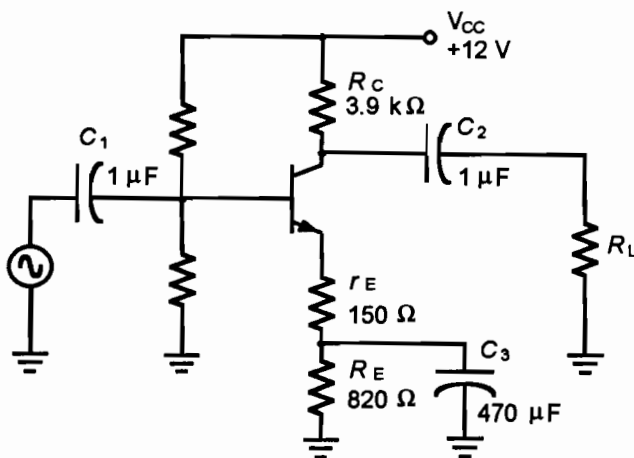

Figure 17.3
- Turn off the circuit power. Modify your circuit to the swamped amplifier of Figure 17.3. Apply the circuit power. Set the function generator to apply a  $20\text{ mV}_{p-p}$ ,  $1\text{ kHz}$  input signal, using your oscilloscope. Measure and record the amplifier input and output signal values. Then calculate the amplifier loaded voltage gain.
- A. In Procedure step 5, the average value of the output signal was not zero. Calculate the average value from the data of Figure 17.3.
- B. What is the circuit parameter value represented by the average value  $V_{avg}$  of part A? Explain why you obtained the collector waveform values recorded in Figure 17.3.